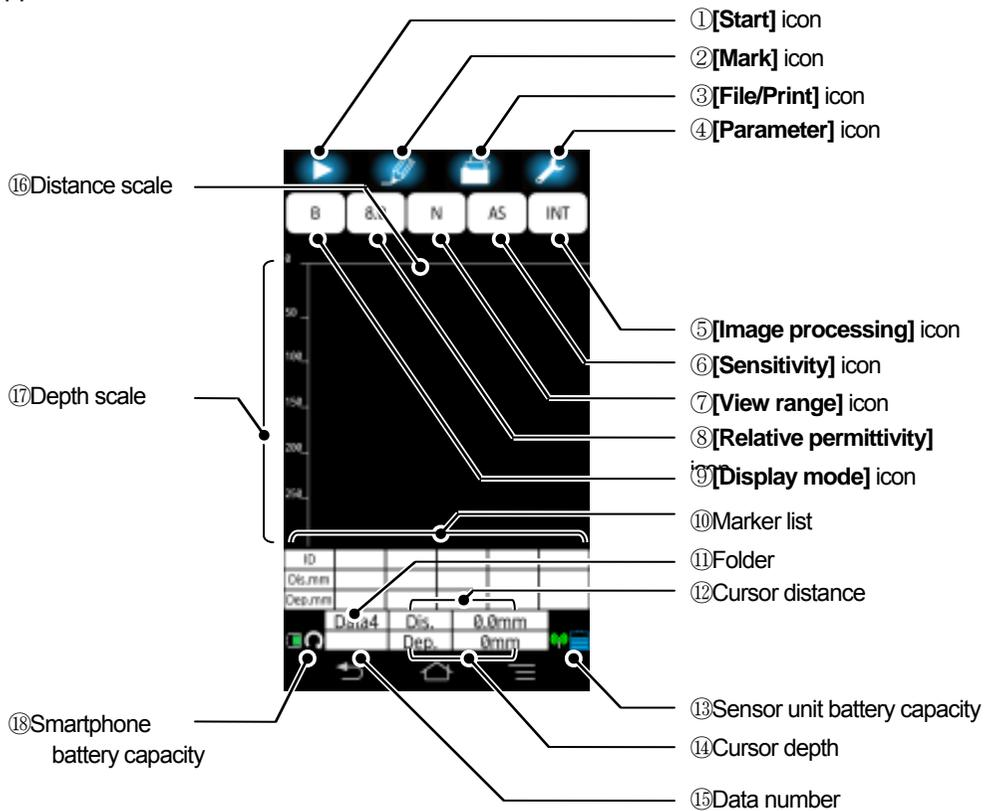

Figure 4-1 Main screen of NJJ-200 application
Figure 4-1 shows the name of each part which appears on the main screen of NJJ-2000 application.
⑩	Maker list	Shows the coordinate of each registered marker. For this detail, refer to Section 4.3.3 Marker list.
⑪	Folder	Shows the current setting of the folder. The file operation (saving and recalling) are performed for the file under the selected folder. For this detail, refer to Section 4.12.3 [Select Folder] menu.
⑫	Cursor distance	Shows the distance coordinate of the cursor.
⑬	Sensor unit battery capacity	Shows the remained capacity of the sensor unit's battery roughly.
⑭	Cursor depth	Shows the depth coordinate of the cursor.
⑮	Data number	Shows the current setting of the data number. The scan result is saved into the file whose name is decided by the data number. For this detail, refer to Section 4.12.4 [Data number setting] menu.
⑯	Distance scale	Is the moving distance scale. Antenna markers and the line marker of the image processing are shown on this scale.
⑰	Depth scale	Is the depth scale. This scale changes in accordance with the depth calibration (relative permittivity setting). For the depth calibration, refer to Sections 4.7 [Relative permittivity] icon and 4.11.1 Device setting: [Relative permittivity] menu.
⑱	Smartphone battery capacity	Shows the remained capacity of Smartphone's battery roughly.
At the idle state (not scanning), by tapping the B mode screen at the desired position, you can show the cursor at the tapped position. The cursor consists of horizontal and vertical lines. The coordinate of the cursor (cross point of the horizontal and vertical lines) is shown at the cursor distance and the cursor depth (Refer to Figure 4-1 ⑫ and ⑭).
At the idle state (not scanning), by tapping **[Mark]** icon (refer to Figure 4-1 ②), you can add or delete a marker at the cursor position (cross point of the cursor's horizontal and vertical lines).